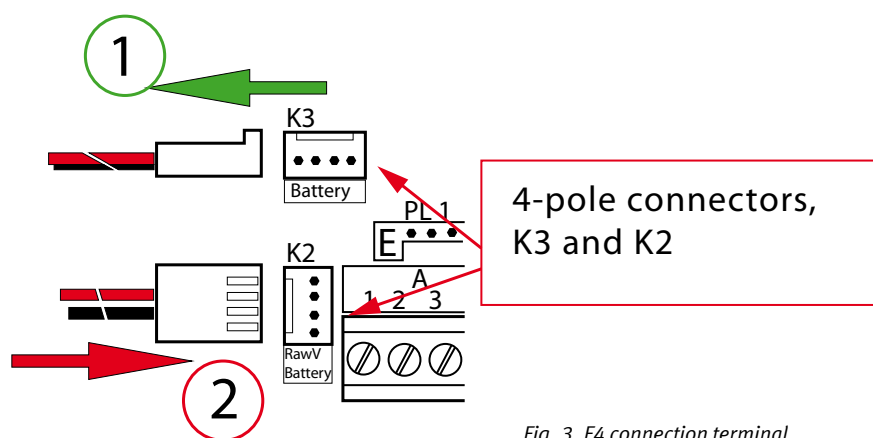

Fig. 3, F4 connection terminal
3. Cut the power by disconnecting the four-pole connectors K2 and K3, cf. Fig.3.